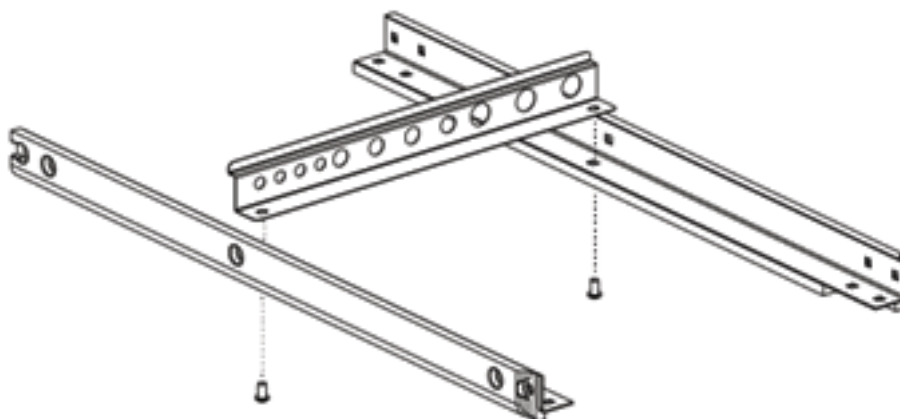

Figure 2
- 3) Attach the prybar holder to the front and rear cart leg/bumper assemblies. Make sure the wide side of the pry bar holder is placed against the legs. Repeat the same operation to assemble the other pair of legs and pry bar holder. (See figure 2).